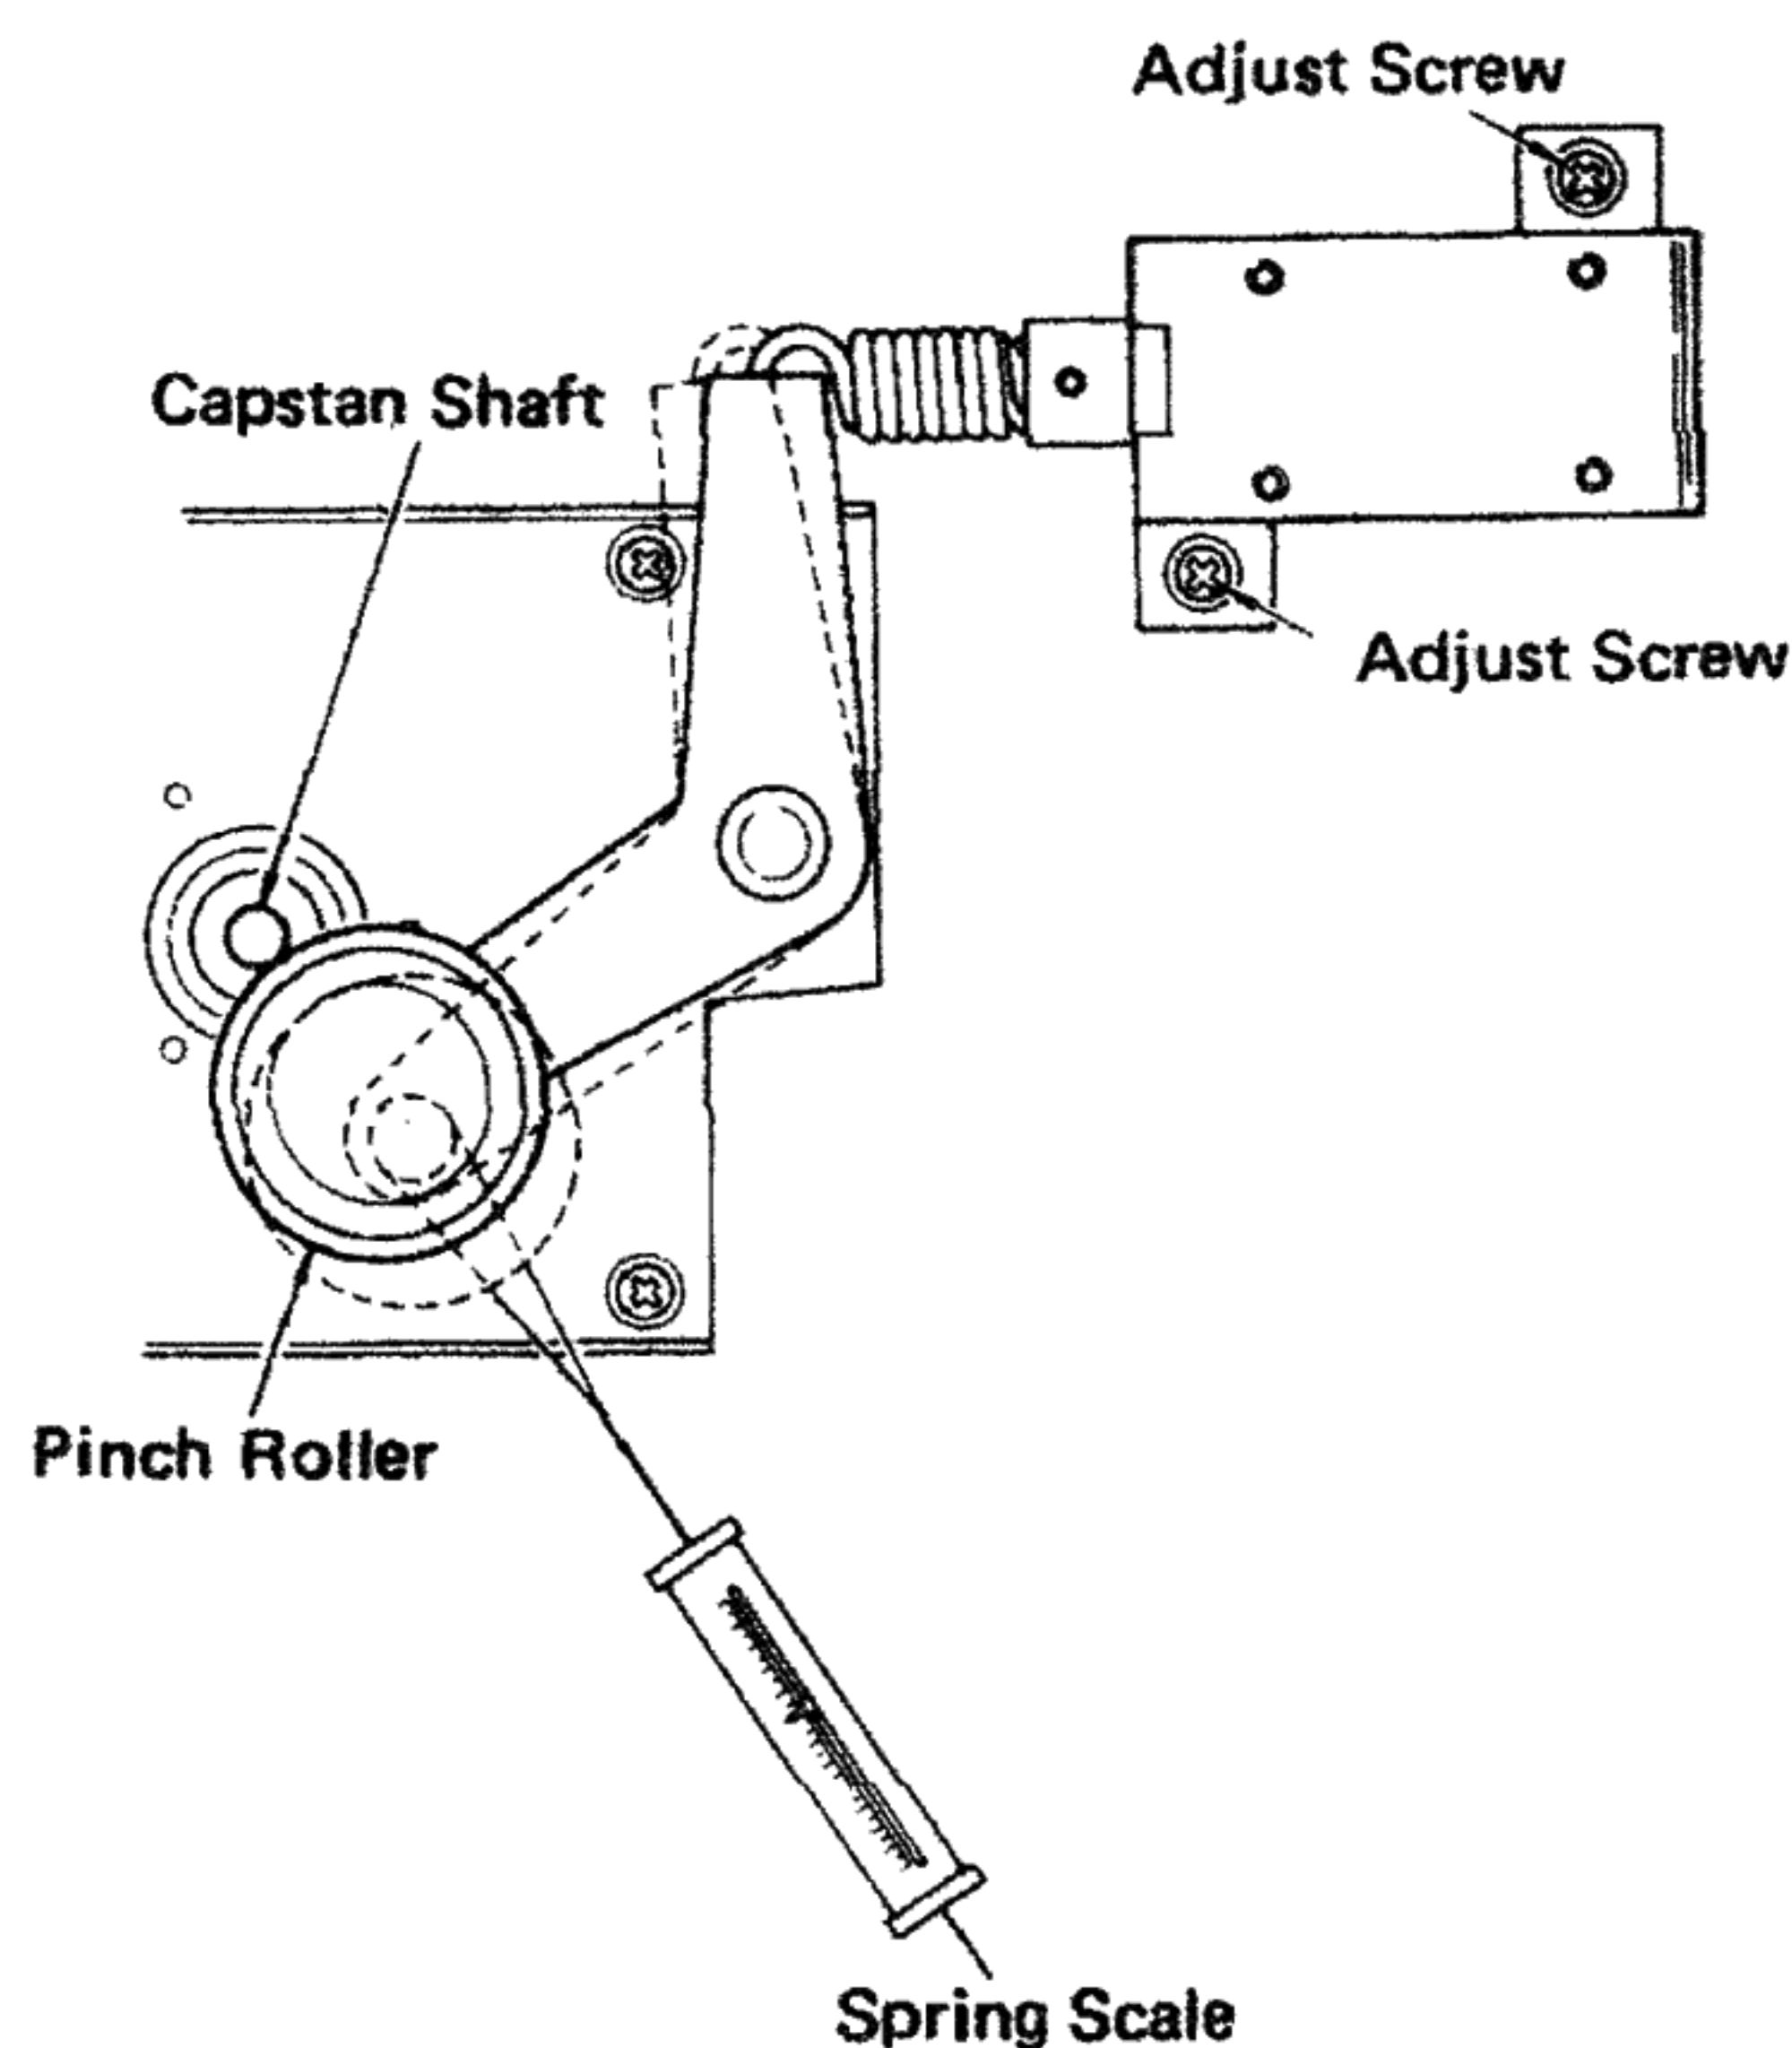

Fig. 4-7
3. Attach a spring scale to the pinch roller as shown in Fig. 4-7.